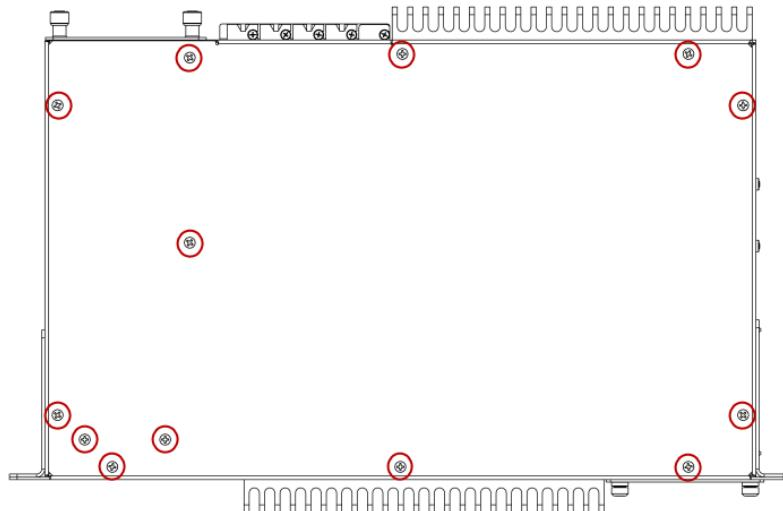

Figure 3.2 Top-Panel Removal
To access the main board and PCI expansion slots you must first remove the top panel from the SEL-3555-2. To do so, remove the screws as shown in *Figure 3.2*.
- Step 7. Remove the screws as shown in *Figure 3.2*.